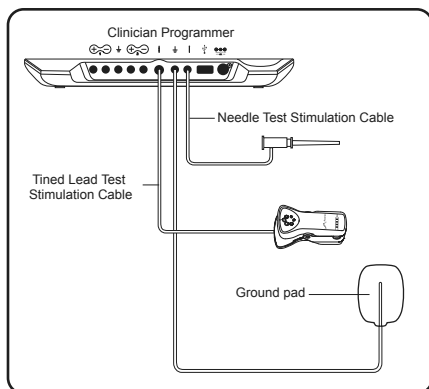

Figure 4. Clinician Programmer cable connections for the lead implant procedure.
- e. Insert the black plug into the CP ground (\perp) next to Needle Test Stimulation Cable (**Figure 4**).
7. Insert the black plug of the needle test stimulation cable into the CP outside the sterile field (**Figure 4**). Keep the clip end of the cable in the sterile field.
9. Insert the grey plug of the tined lead test stimulation cable into the CP outside the sterile field (**Figure 4**). Keep the clip end of the cable in the sterile field.